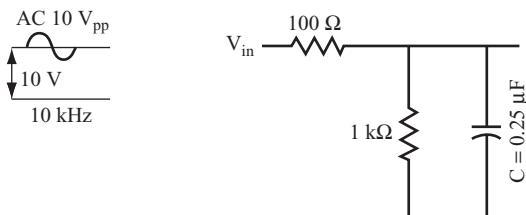

FIGURE 6.58
- 6.** Use the circuit shown in Figure 6.58.